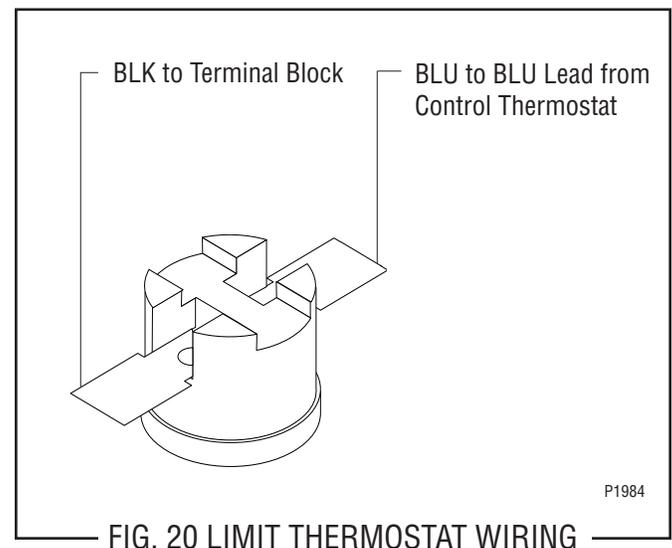

FIG. 20 LIMIT THERMOSTAT WIRING
4. Refer to FIG. 20 when reconnecting the wires.